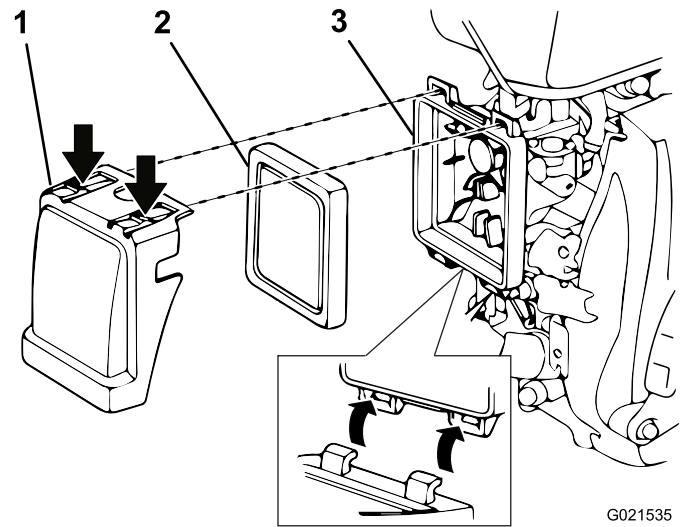

Figure 22
2. Press the button on the air-cleaner cover (Figure 22) and open the cover.